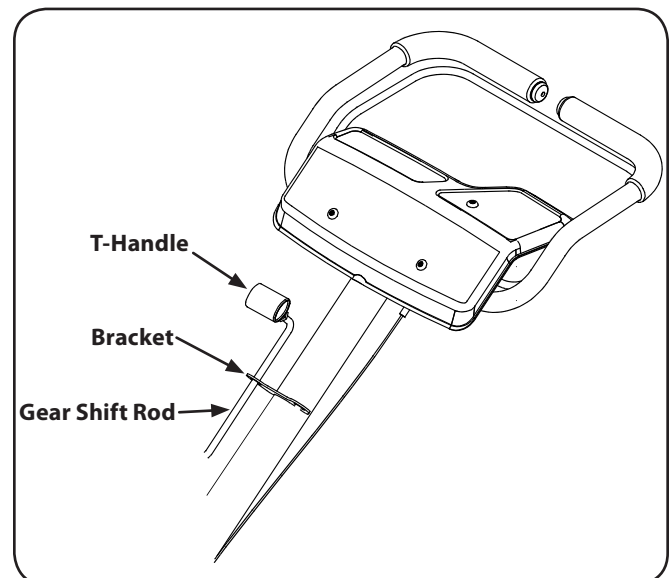

Figure 3-5
2. Slide the rod up through the right side of bracket on the front of the handle assembly. See Fig. 3-5.